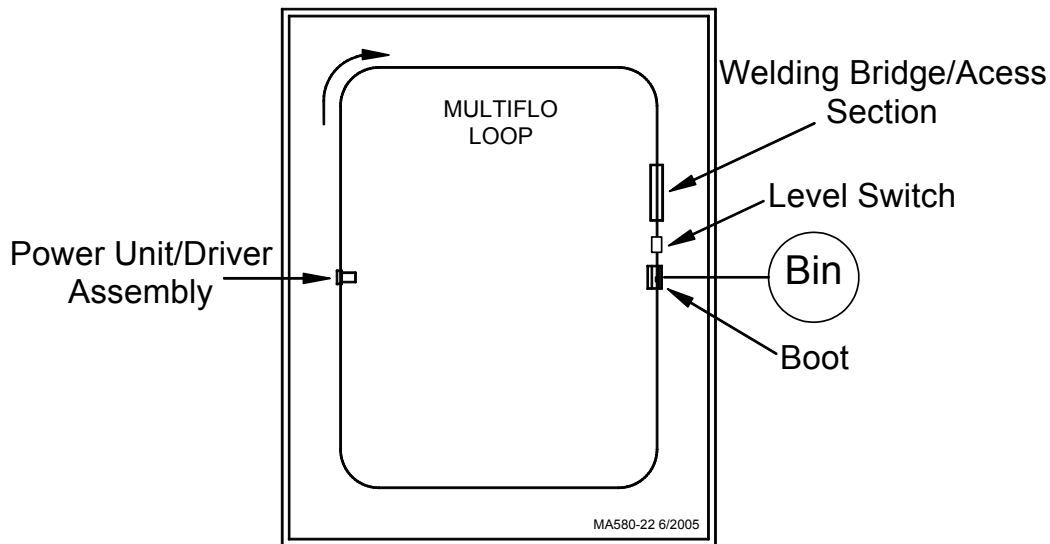

Figure 6. Placement of the Welding Bridge
- (if the system permits) just ahead of the sleeve switch and boot, and just after the last feeder or drop to aid in knowing when the system is full or satisfied. **Figure 6** shows a possible placement of the Welding Bridge in a typical installation. The Welding Bridge attaches to the PVC Tubes with the over-center clamps. **IT MUST BE SECURELY ATTACHED BEFORE THE AUGER IS INSTALLED!**